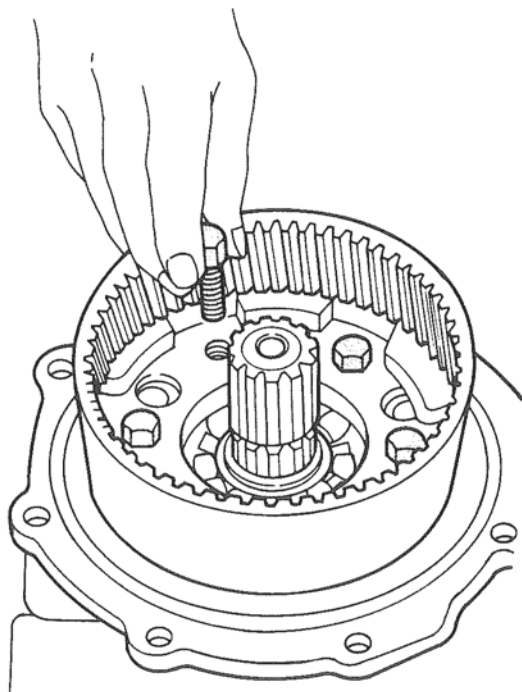

Figure 9. Removing Nylock Bolts.
8. Remove the six (6) nylock bolts and lockwashers and stationary gear plate and ring gear assembly. Figures 9 and 10.